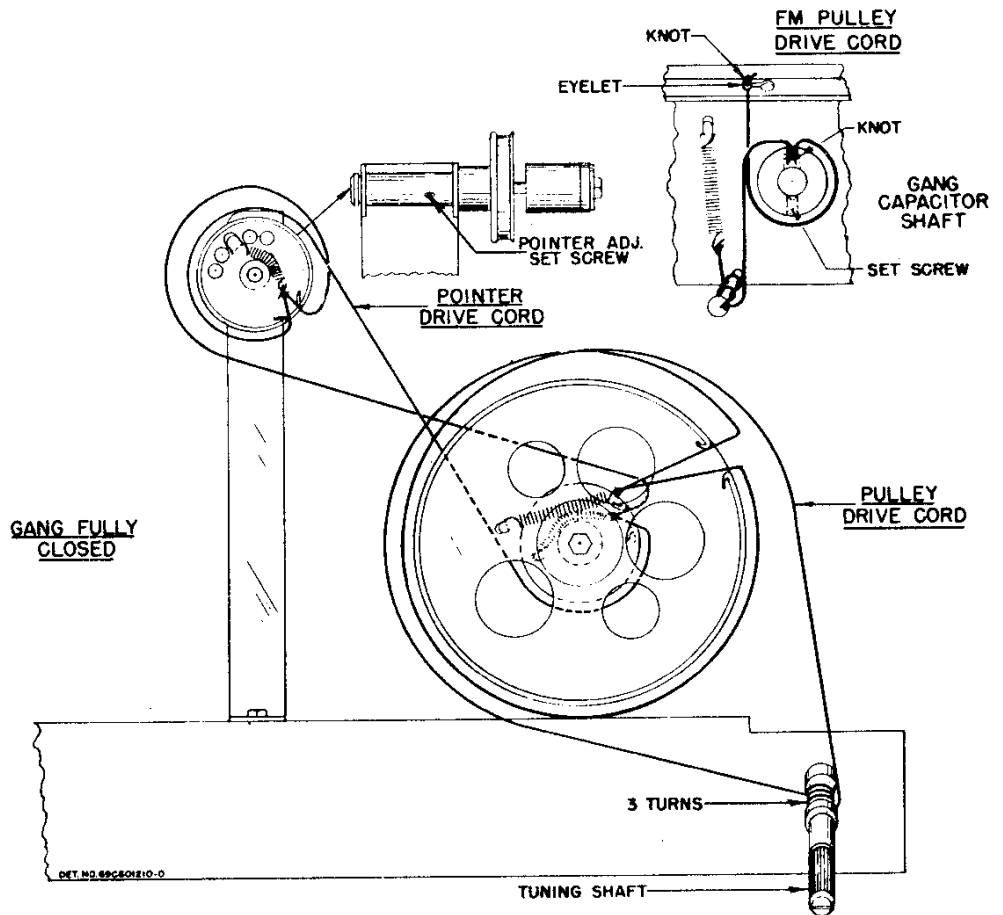

FIGURE 3. POINTER AND DRIVE CORD RESTRAINING DETAIL
5. From the back of the cabinet, loosen the pointer adjustment setscrew (see Figure 3) and pull the pointer and shaft assembly from the chassis. **CAUTION:** Do not remove the nut from the front of the pointer, as the detent ball and spring will fall out, and may become lost.
2. From the back of the cabinet, loosen the pointer adjustment setscrew (see Figure 3). **CAUTION:** Do not remove the nut from the front of the pointer.